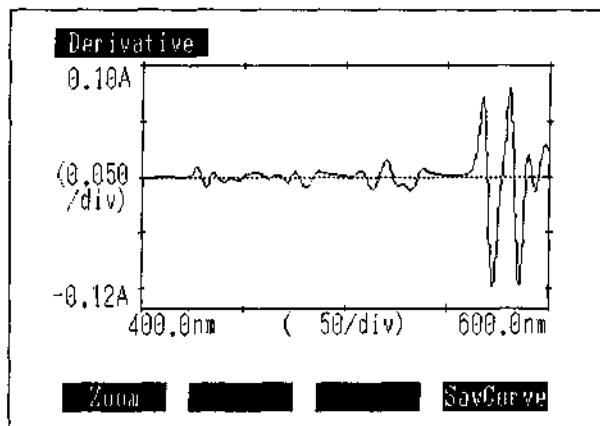

Fig. 8.10 Derivative results display screen
The results from the derivative of the curve data displayed in the derivative processing screen where ORDER=2 and $\Delta \lambda$ (N)=1, are shown in Figure 8.10.